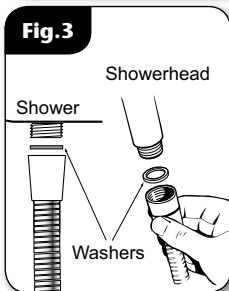

Fig. 3
- Screw the flexible hose to the shower outlet and showerhead, making sure the supplied washers are in place at both ends of the flexible hose **(fig.3)**.